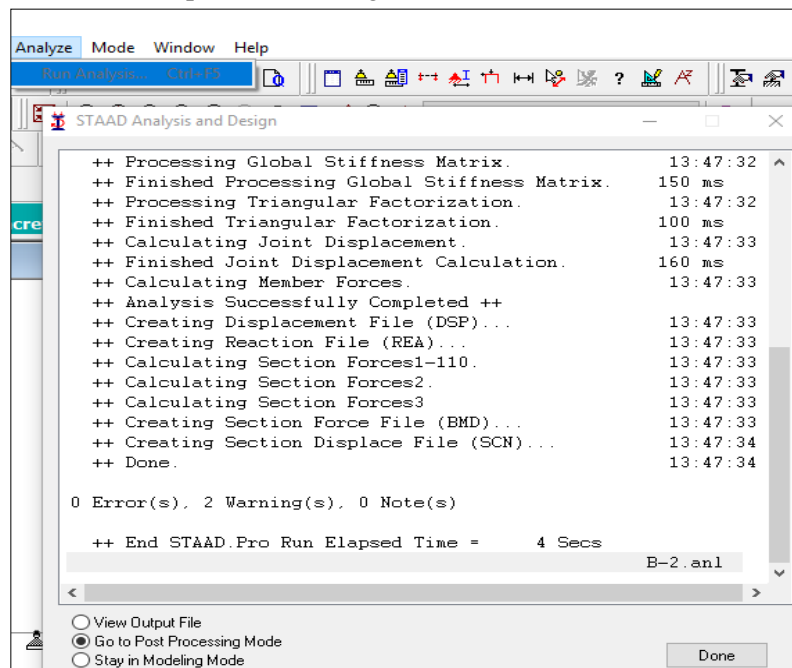
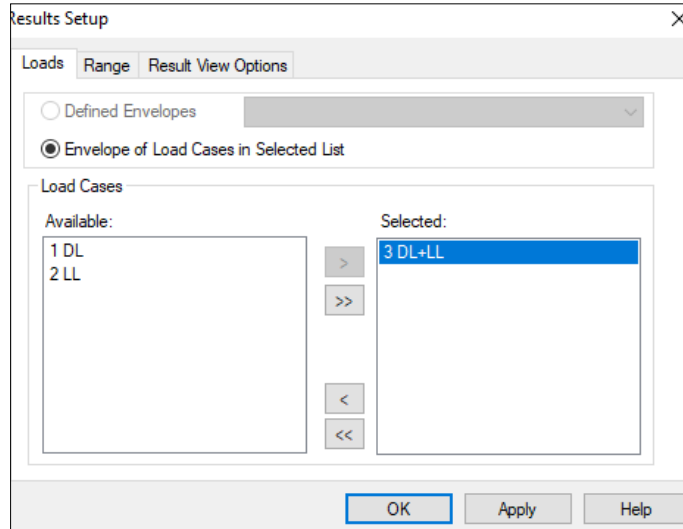

Fig: 3.12
Fig: 3.13
- At Menu bar → Analyze → Run Analysis → Go to post processing mode → Done → Selected load cases = DL+LL → Apply → OK. (Fig: 3.12 & Fig: 3.13)